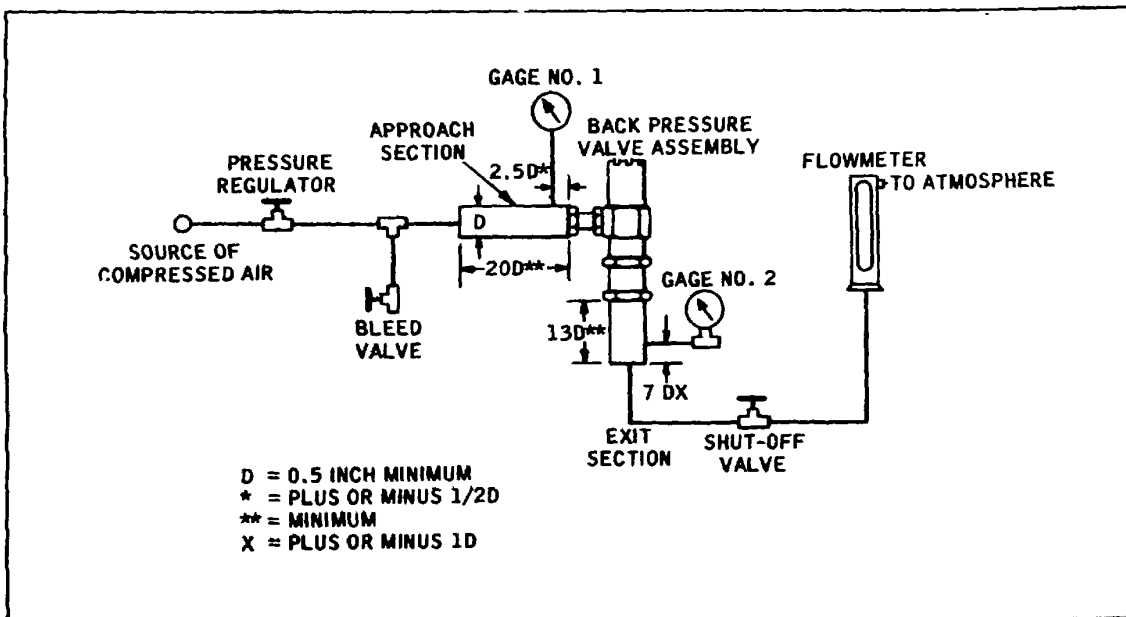

Figure 4-5. Set-up for Testing Back Pressure Valve
b. Install back-up ring (12) and packing (11) in groove of piston (9). Install second packing (11) in groove of piston seat (10).
c. Install piston seat (10) and piston (9) in valve body (13).
d. Position tube fitting gaskets (5) in grooves of inlet and outlet fittings (3 and 4). Screw fittings into appropriate ports of valve body (13) and tighten with a torque of 45 pound-inches.
e. Place spring (8), flanked by two spring plates (7), into valve body (13). Screw valve cap (6) into valve body until top surface of cap is approximately flush with upper edge of valve body.
a. Connect back pressure valve to test set-up as shown schematically in Figure 4-5. Be sure to observe dimensions shown for approach and exit sections.